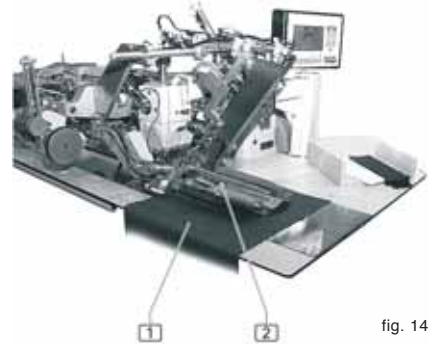

fig. 14
2. **fig. 14:** Position workpiece **1** and align it on the laser markings.